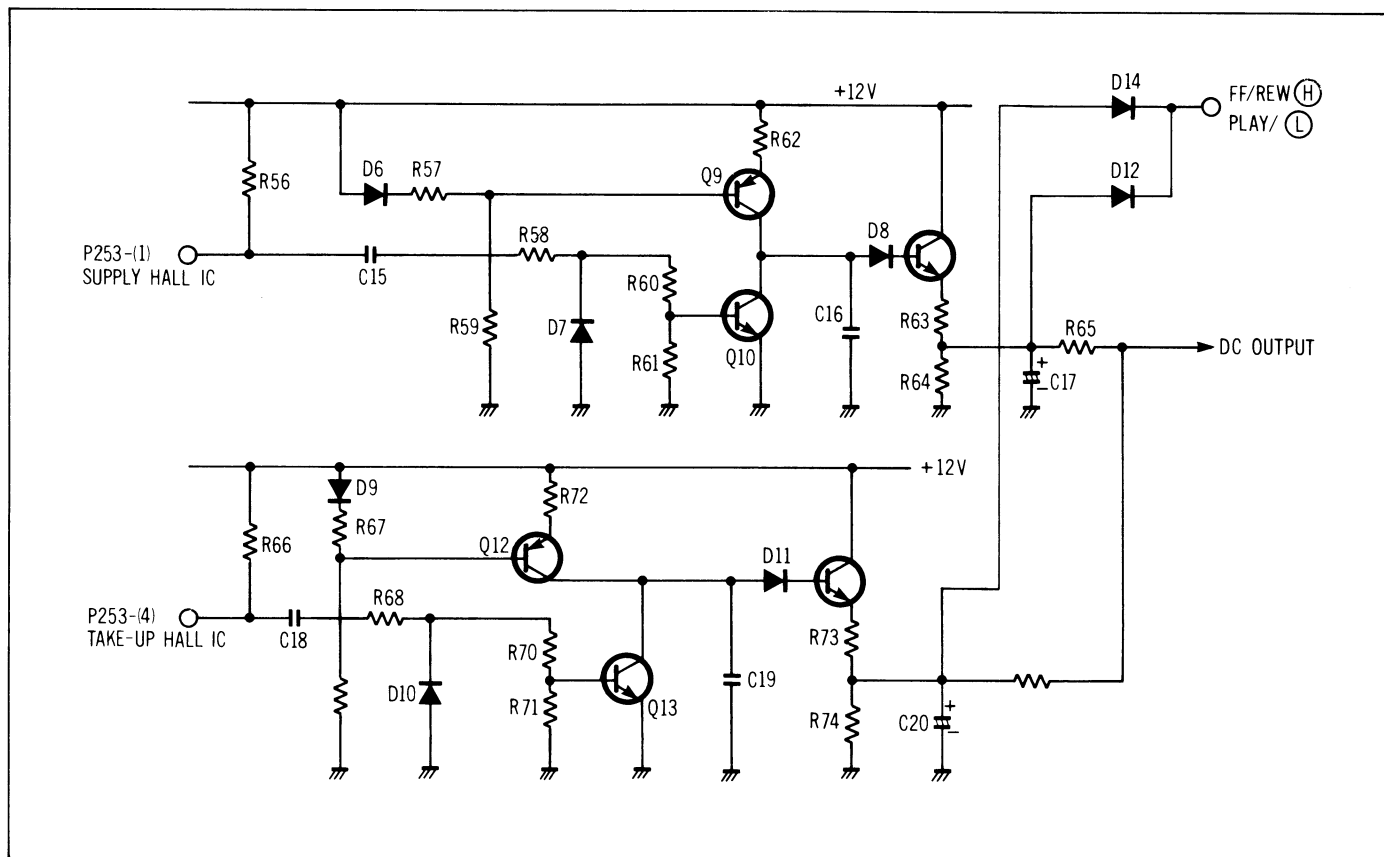

Figure 2-207
differentiated by C15 (Takeup reel, C18), and then a sawtooth wave is generated by R62 and C16 (Takeup reel, R62 and C19). Next, the peak value of the sawtooth wave is integrated by R63 and C17 (Takeup reel, R73 and C20). Finally, both of the supply and takeup DC voltages are mixed. This resultant DC voltage is amplified by IC3-(12), (13) and (14) to serve as the reel motor drive through D13. (See Figure 2-207).